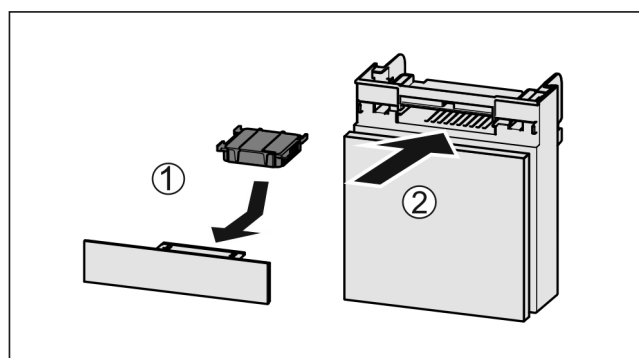

Fig. 46
- ▶ Insert the carbon filter as shown in the diagram Fig. 46 (1).
- ▶ Push the compartment in *Fig. 46 (2)*.